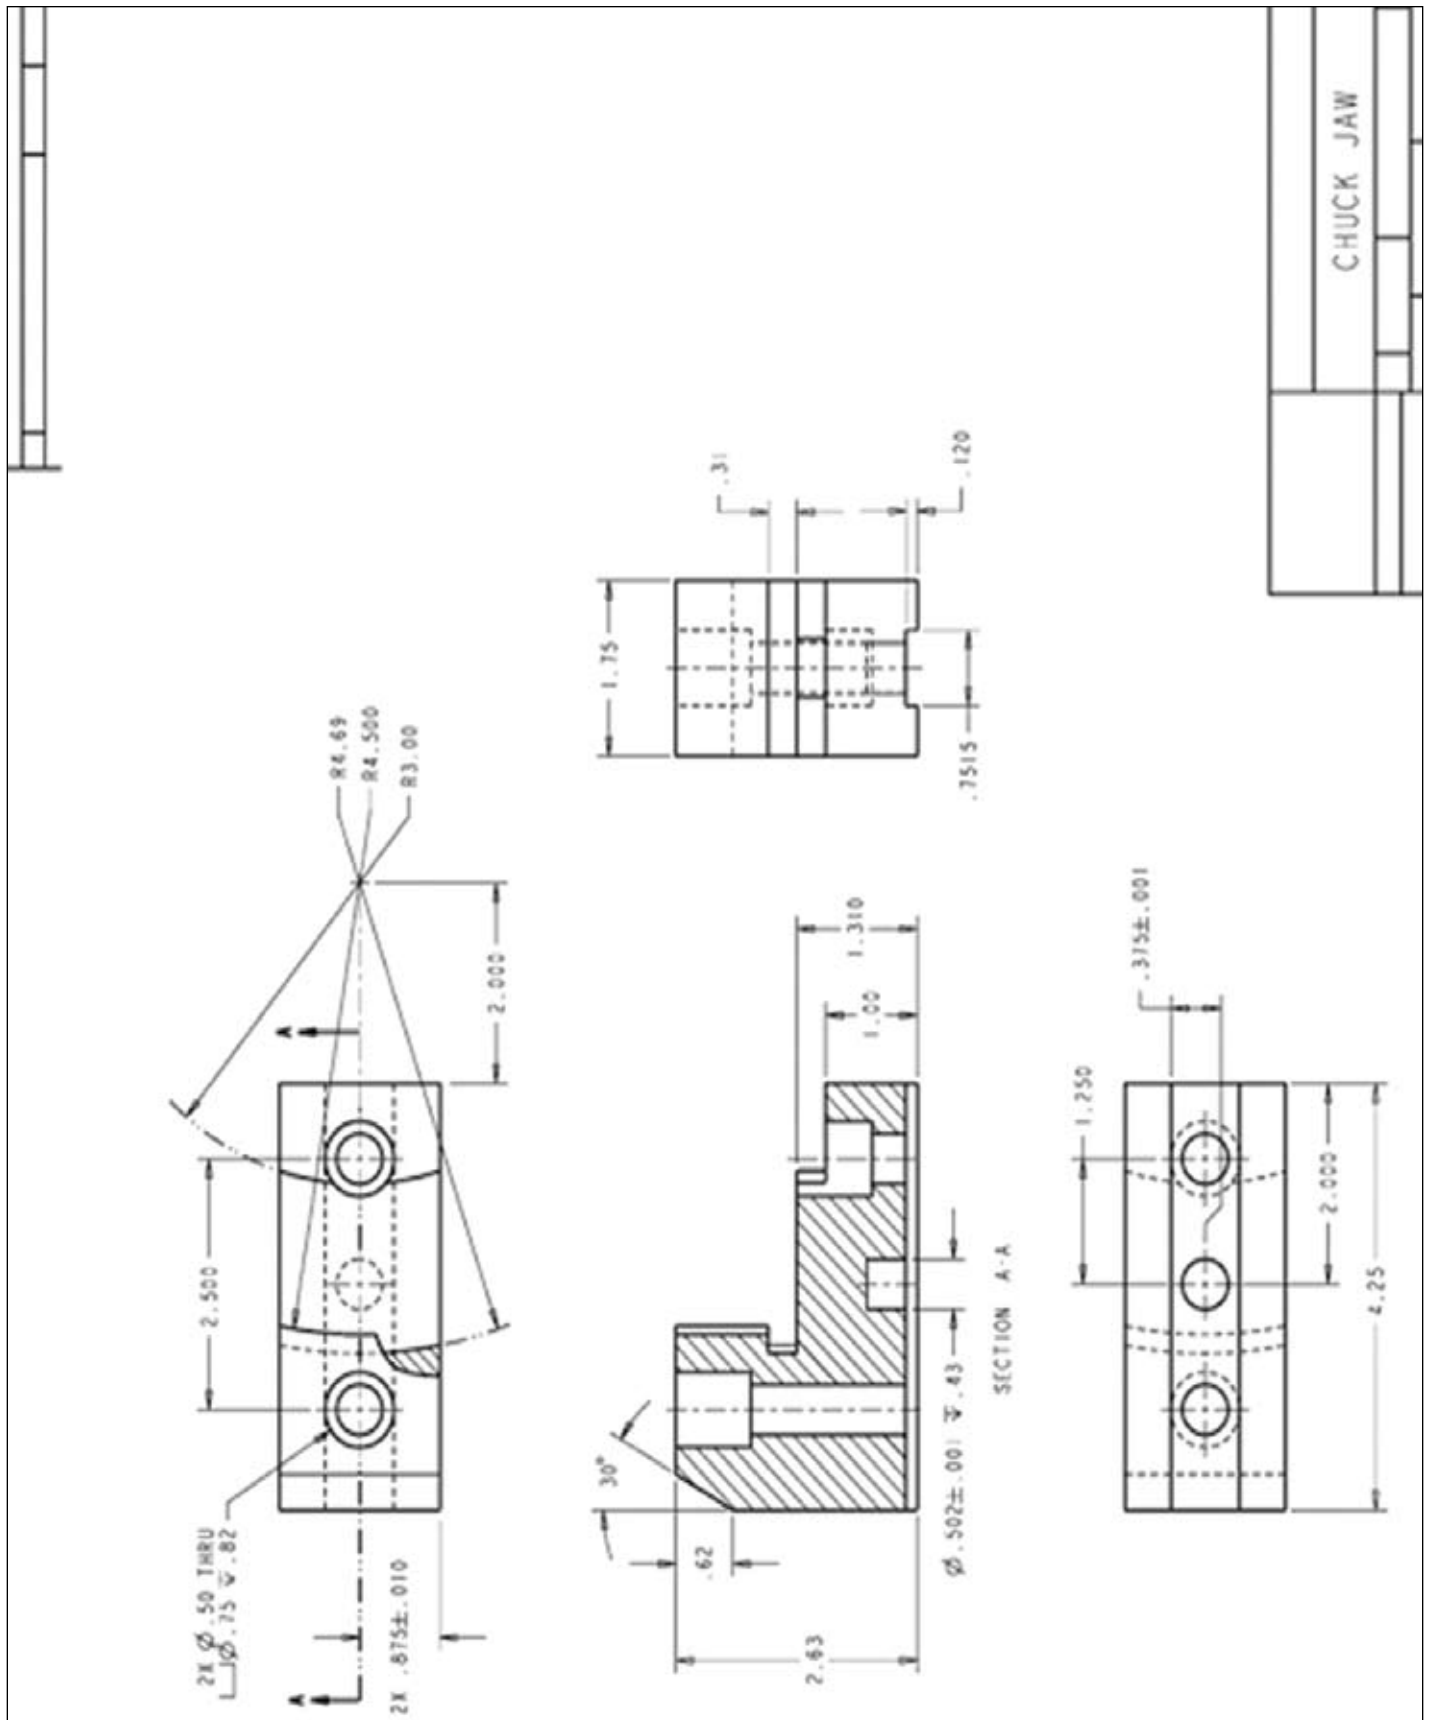

Figure 11-14: Chuck Jaw
Step 14: Switch to Paper Space and arrange the drawings to clearly show all views. Refer to Figure 11-14 for a sample representation of the part layout with the dimensions applied. The general notes and title block detail have been omitted.